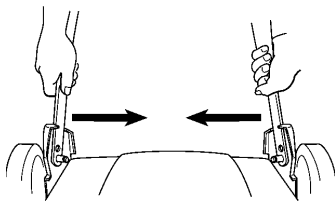

Figure 31
1. Push in the right bottom handle section until the handle slides past the stops on the handle brackets (Fig. 31).